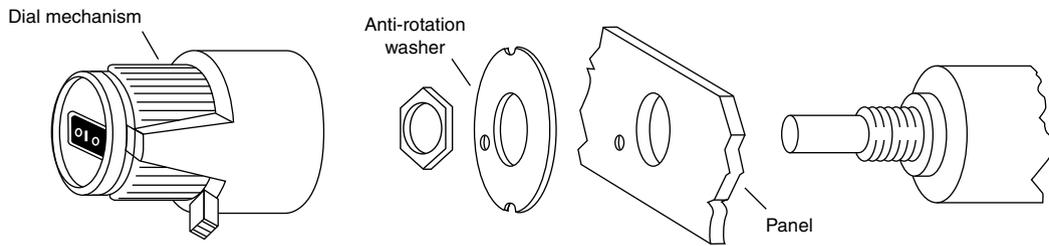

Fig. 2 -
2. Mount potentiometer in panel hole (Fig. 2) such that the end of the potentiometer spindle is between 12 mm and 20 mm from the panel. Under these conditions the potentiometer mounting bush should not project more that 4 mm from the front of the panel.